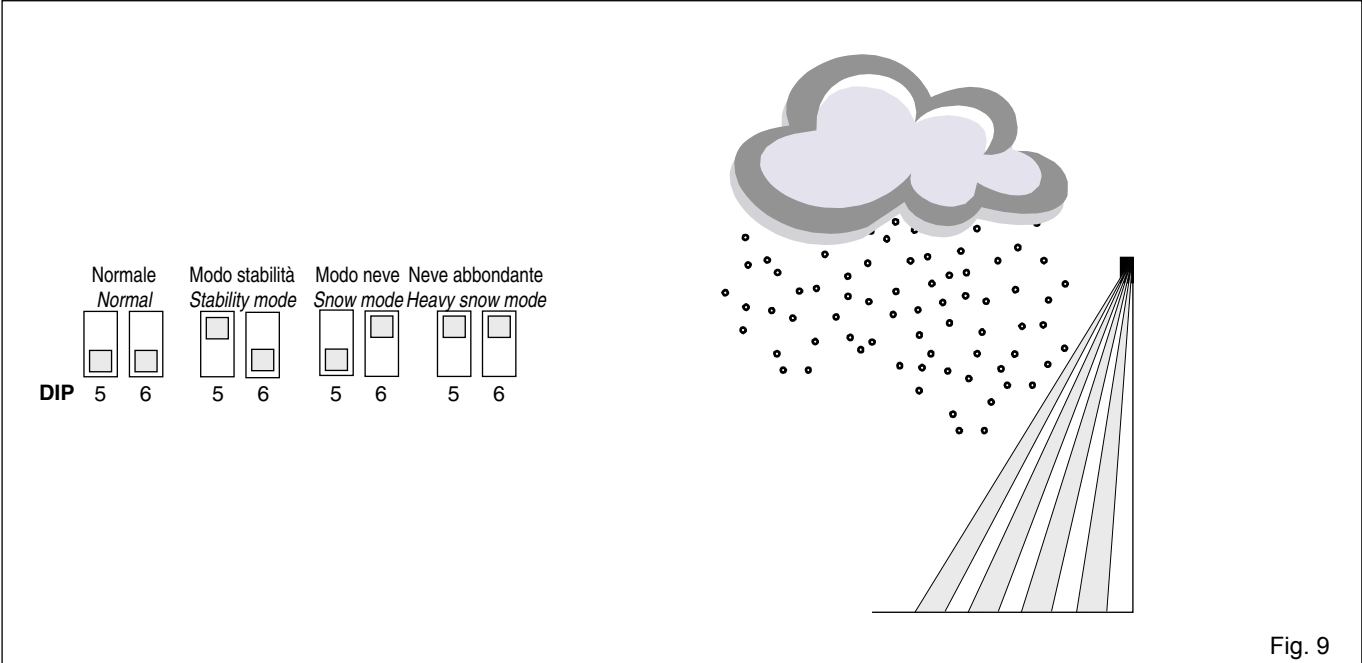

Fig. 9
4.5 (Fig. 9) Adjustment of the snow mode: